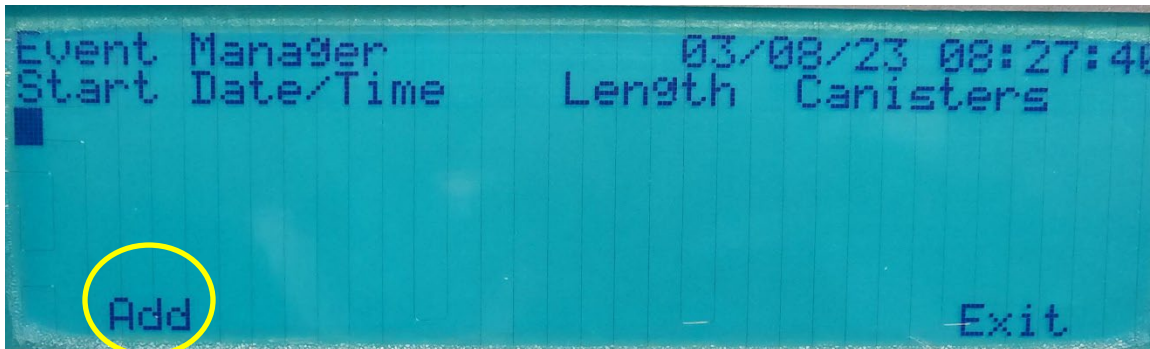

Figure 27: Event Manager, creating a new event.
3.5.3 Press "Add" to enter new sampling event details (Figure 27).